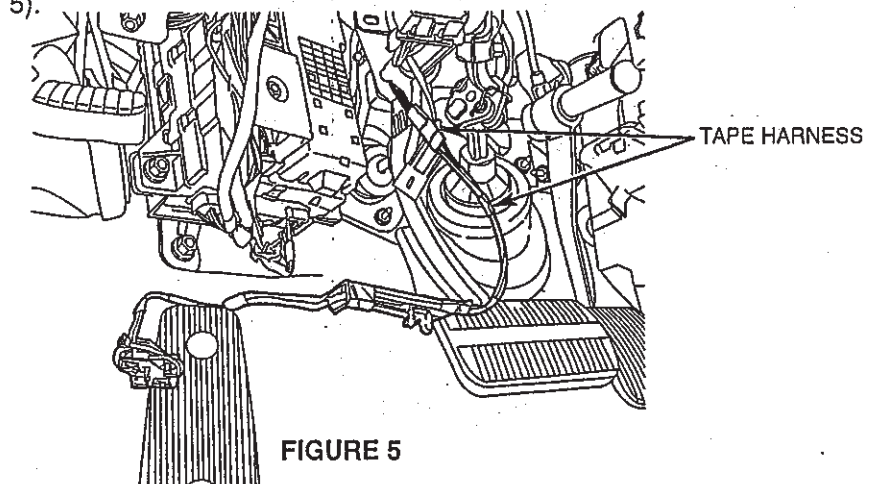

FIGURE 5
7. Install one (1) butt splice connector onto each stripped wire on the new harness as follows:
10. Using vinyl electrical tape, secure the butt splices and the harness wires together in two (2) or three (3) locations (refer to Figure 5).